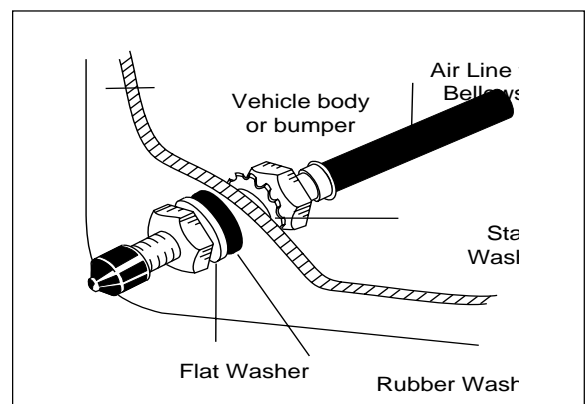

Figure 9
- Use a standard tube cutter, a razor blade, or very sharp knife to cut the air line in two equal lengths. A clean square cut will ensure against leaks. Drill a $\frac{5}{16}$ " hole for inflation valve and mount as illustrated. The rubber washer on the outside is for weather seal (Figure 9).